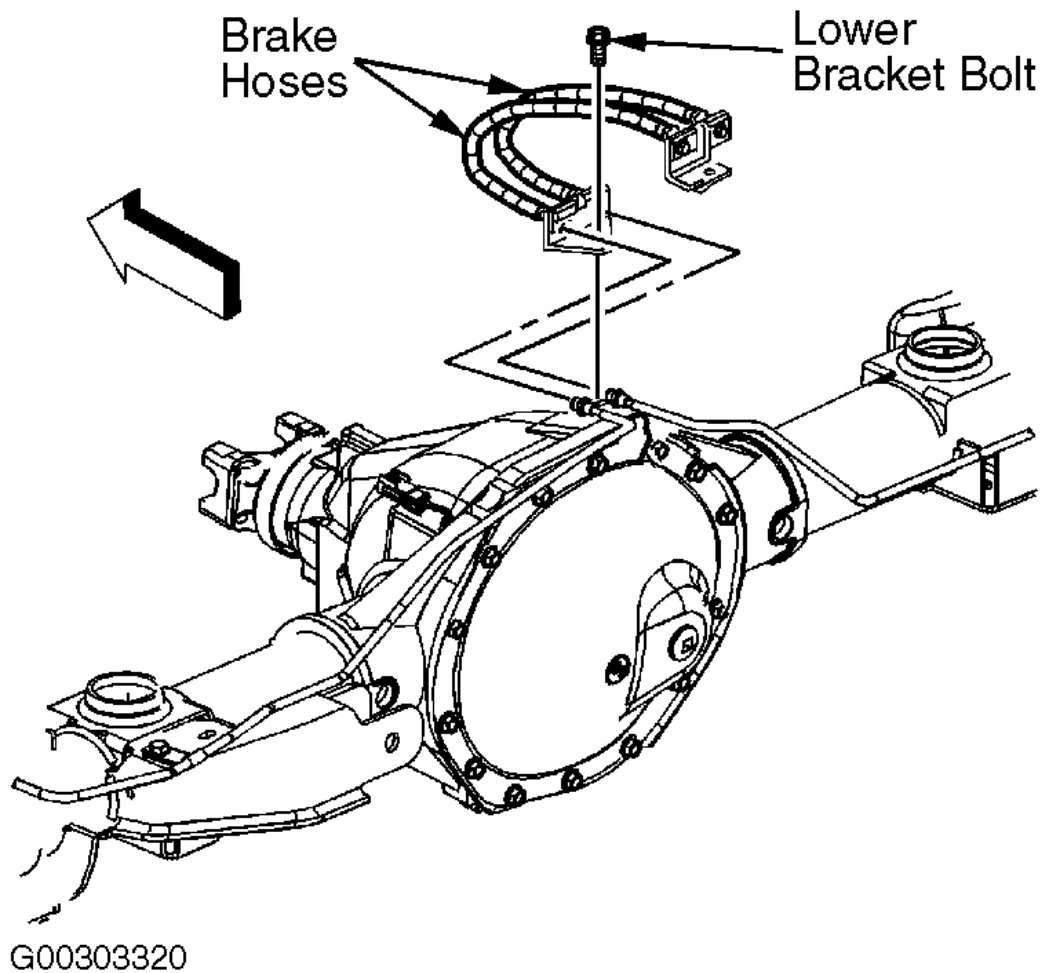

Fig. 23: Removal/Installation Brake Hose (Rear Jounce - 2 Of 2)
3. Install a rubber cap or plug to the exposed brake pipe fitting ends in order to prevent brake fluid loss and contamination. Using a backup wrench on the hose fittings, disconnect the brake pipe fittings from the brake hoses, then cap or plug the brake pipe fitting ends. See **Fig. 23** . Remove the brake hose lower bracket bolt. Remove the jounce hoses.
1. Install the rear jounce brake hose. See **Fig. 23** . Install the brake hose lower bracket and bolt to the axle. Tighten the bolt to specification. See **TORQUE SPECIFICATIONS** . Remove the caps or plugs from the rear jounce hoses and connect the pipes to the junction block on the axle. Tighten the fitting to specification.